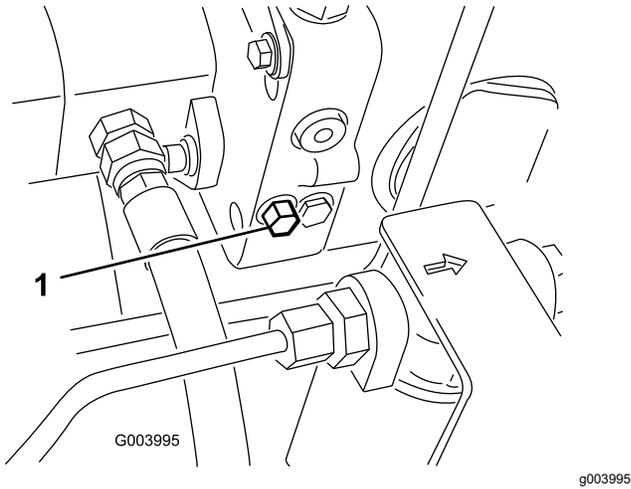

Figure 59
3. At the variable-displacement pump, rotate the bypass-valve bolt 1-1/2 turns to open and allow oil to bypass internally (Figure 59).